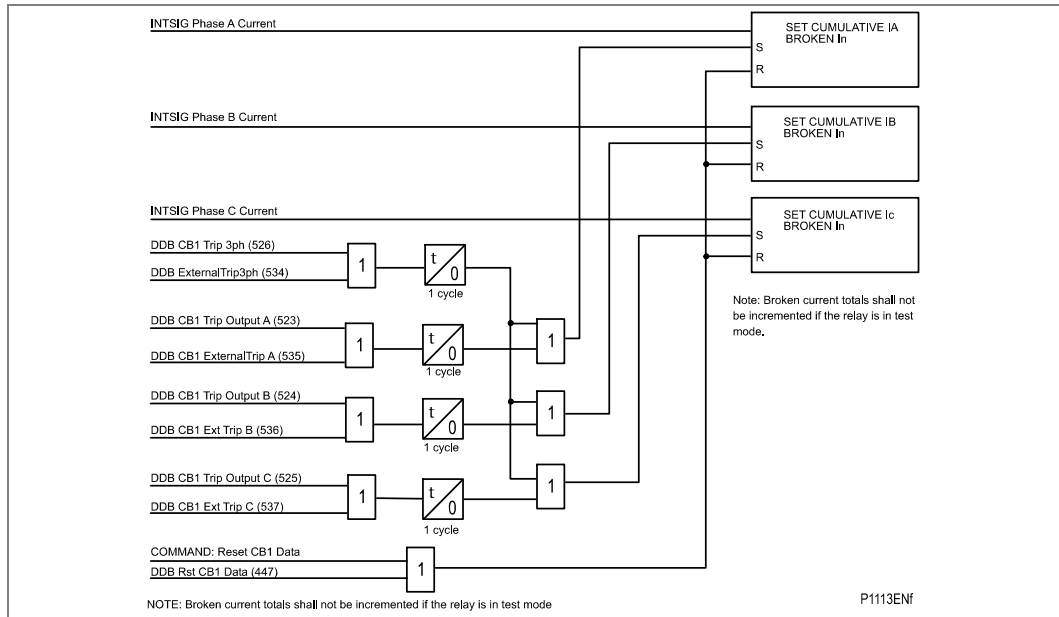

Figure 10 - CB1 condition monitoring – broken current
- Figure 10 - CB1 condition monitoring – broken current